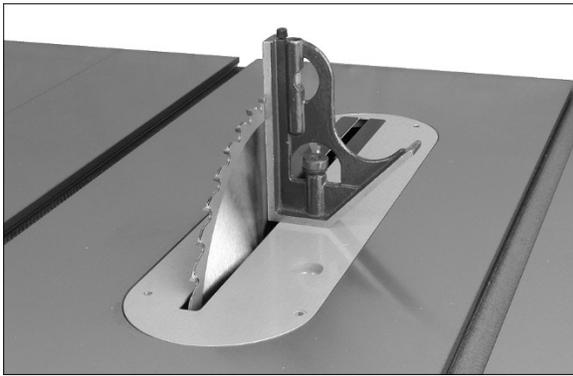

Figure 8-4
3. Raise blade to highest position and place a square on table and against blade (Figure 8-4). Make sure that a blade tooth does not obstruct the actual reading.